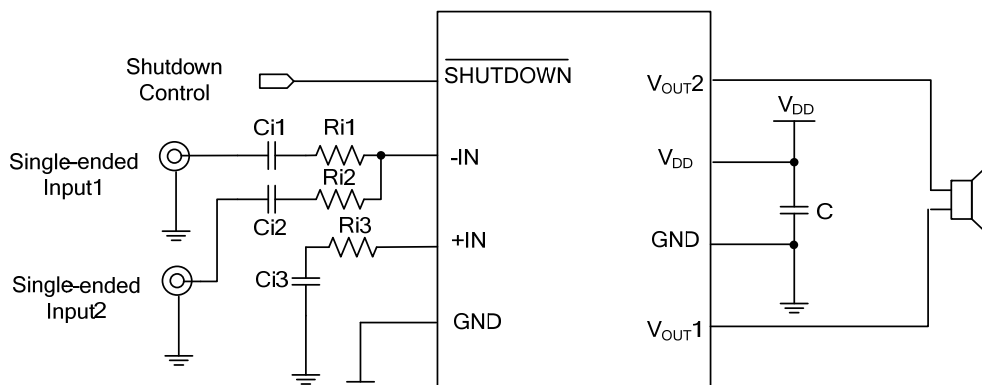

Fig. 7 Dual Single-ended Input Configuration
If the input signal as shown in Fig. 7, the equivalent impedance of each input should be equal. To find the correct values for C_{i3} and R_{i3} , which are found by calculating the parallel combination of all C_i values and all R_i values. Equations (4) and (5) below are for any number of single-ended sources.